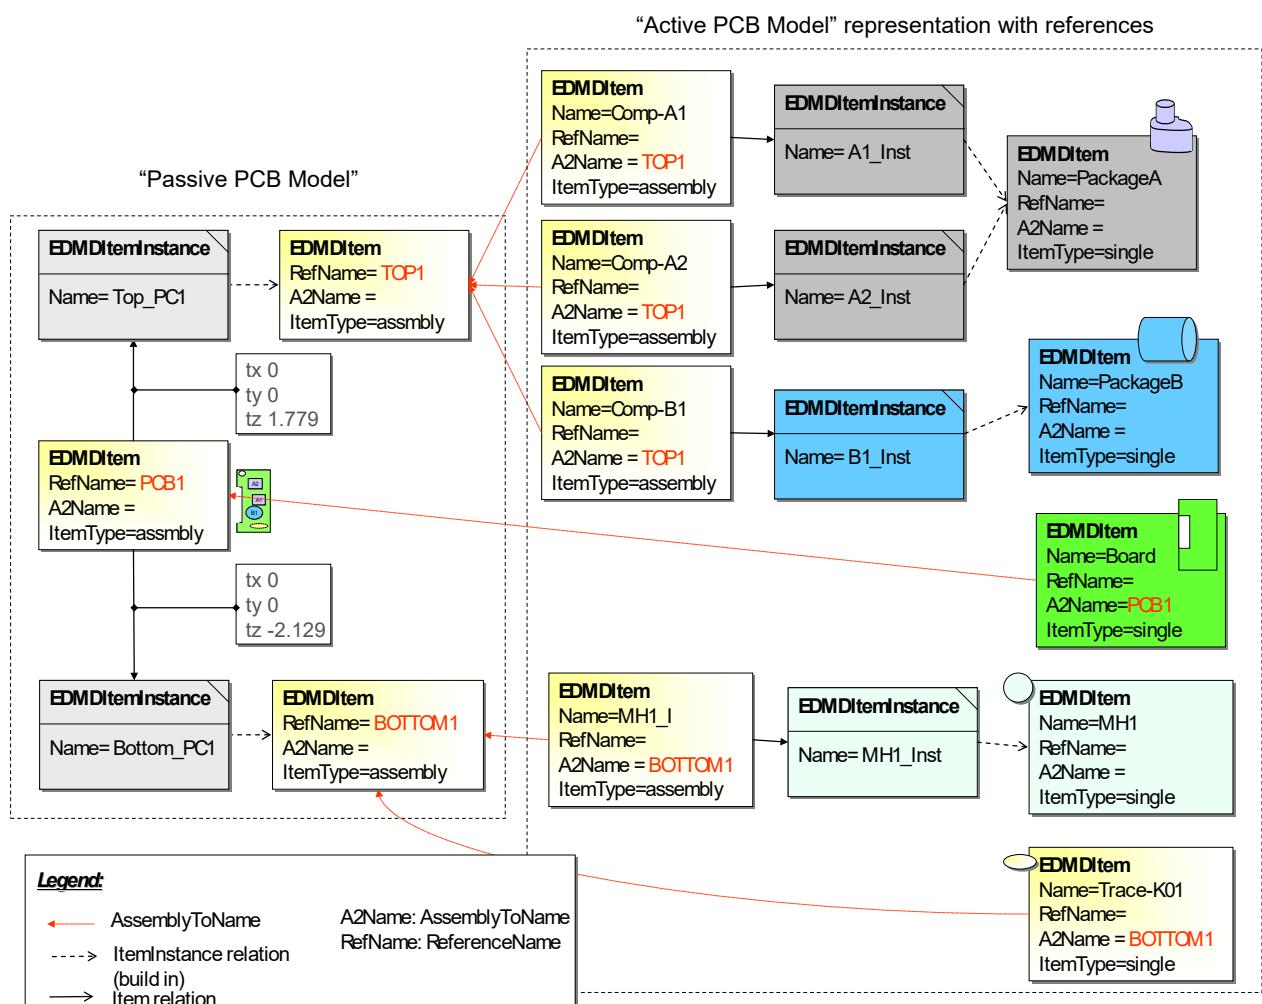

Figure 13: Possible instantiation of a PCB board
- Define all elements as subparts of the assembly PCB. This option is illustrated in Figure 13.